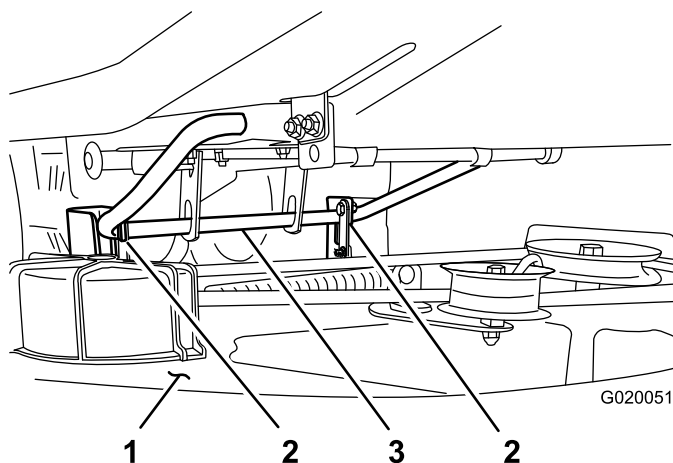
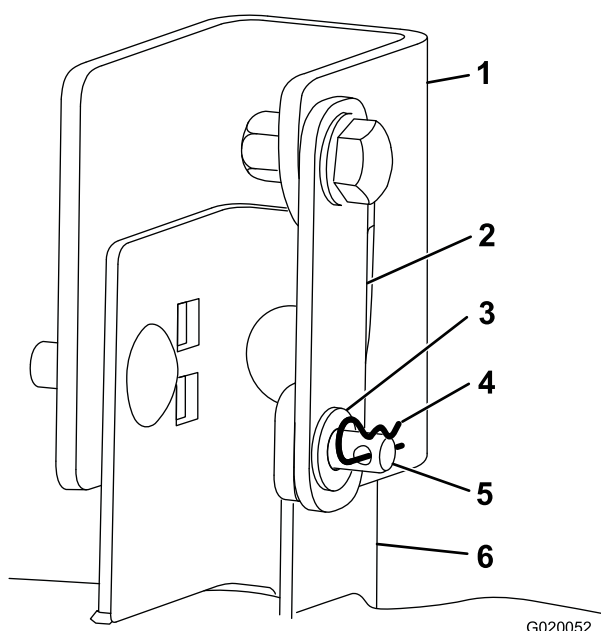

Figure 34
Figure 35
7. Remove the hairpin cotter and washer from the clevis pin in the hanger bracket and deck support bracket on one side of the mower deck. Repeat for the other side (Figure 34 and Figure 35).
7. Lift the rear of the mower deck, and guide the hanger brackets over the rear lift rod (Figure 34).
8. Swivel each deck support bracket so that the hole in the loose end aligns with the hole in the hanger bracket (Figure 35).
9. Install the clevis pin through the brackets on each side; then install the washers on the clevis pins and hairpin cotters through the clevis pins (Figure 35).
8. Lift the rear of the deck slightly to take the pressure off of the cotter pins, and remove them (Figure 34 and Figure 35).
9. Lift the mower deck and the hanger brackets clear of the rear lift rod, and lower the rear of the mower deck carefully to the ground (Figure 34).